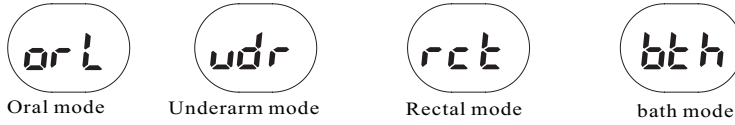
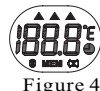
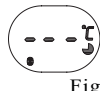
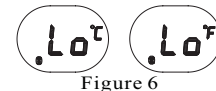

Figure 3
Figure 4
Figure 5
Figure 6
3. Press the button again to cycle through the four mode options (see Figure 3).
2. Press the *On/Off* Button next to LCD display. A tone will sound as the screen shows (See Figure 4) , followed by last recorded temperature. After showing the mode of measurement (See Figure 3), the thermometer will enter into the testing mode (*Oral/Underarm/Rectal mode* see Figure 5 or *Bath Mode* see Figure 6).
- d) *Bath Mode*: It will display Lo and then °C or °F is still flashing (See Figure 6), then place probe tip into bath water.